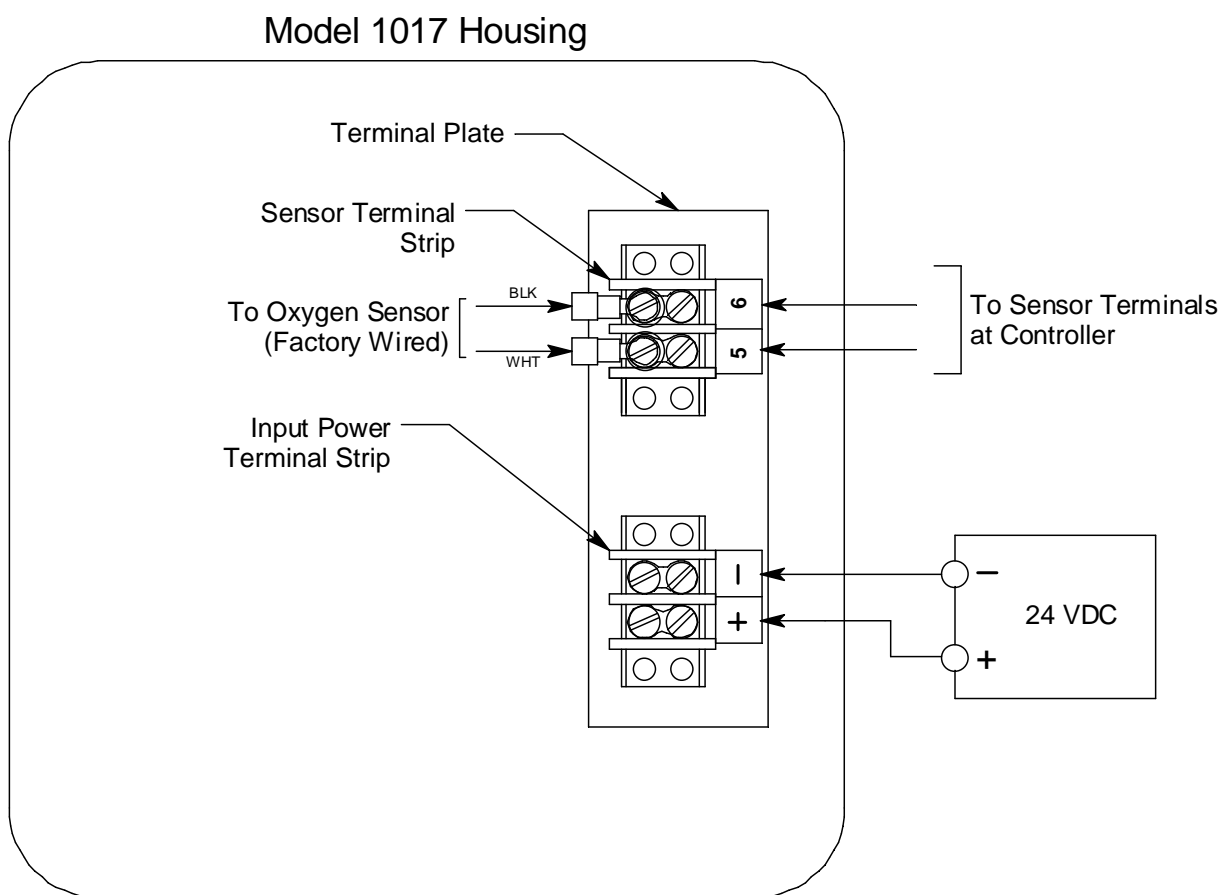

Figure 4: Wiring the Model 1017F-01
4. Connect the two wires to the input power terminal strips as shown in Figure 4.
7. Guide the wires and lugs of the replacement sensor to the sensor terminal strip and insert each lug into the appropriate terminal. See Figure 4 on page 6 for wiring connections. Tighten the screws on the terminal strip.